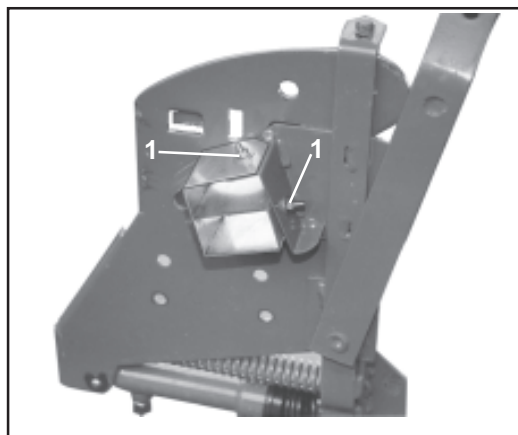

Fig. 10.24
- Mark 2 holes, drill 9 mm diam. holes and bolt the special guide plate to the standard guide plate by flat head bolts M 6 (Fig. 10.24/1).